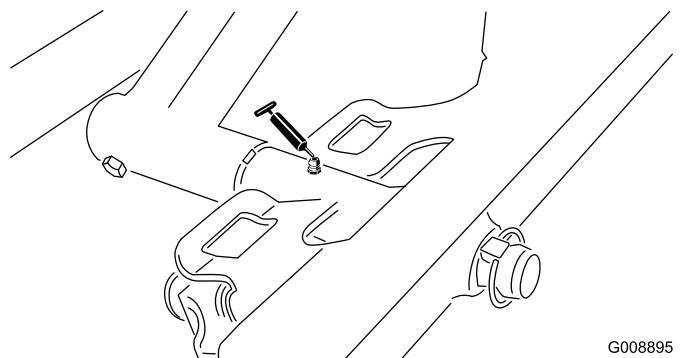

Figure 50
- Front cutting unit pivot (Figure 50)